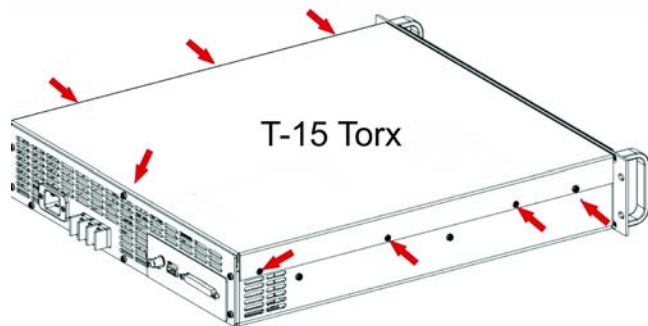

Figure 5.3 – Removing the Amplifier Top Cover
2. Use the T-15 Torx wrench to remove the eight (8) Torx screws, as shown in **Figure 5.3**.